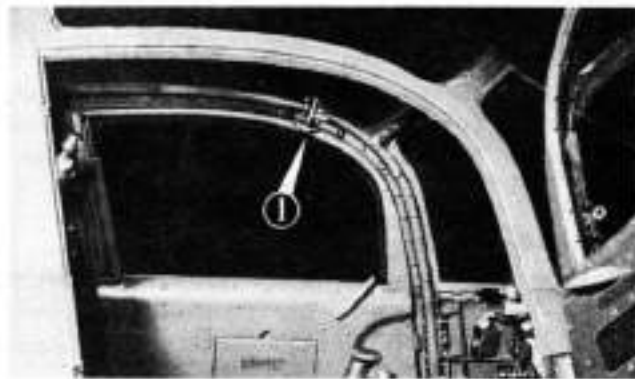

Figure 2—Auxiliary Door Latch
1. Entrance to the cockpit is made through the automobile type door on the right side of the cabin. The left hand door is recommended only in case of emergency. An auxiliary latch (Fig. 2—1) is provided at the top of each door to secure it shut in flight. An emergency door release handle (Fig. 7—50) is located forward of each door.